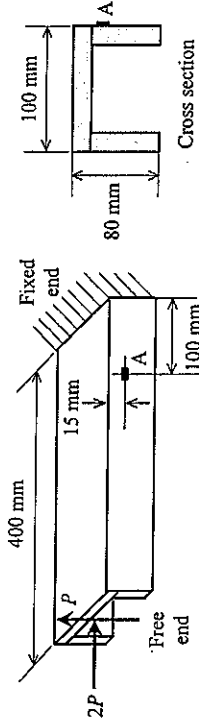

Figure 2
2. Two concentrated forces are applied through the cross section centroid at the free end of a cantilever as shown in Figure 2. The strain gauge located at A registers a longitudinal strain of -150×10^{-6} . The cross section has a constant thickness of 8 mm. Young's modulus of the beam is 200 GPa.